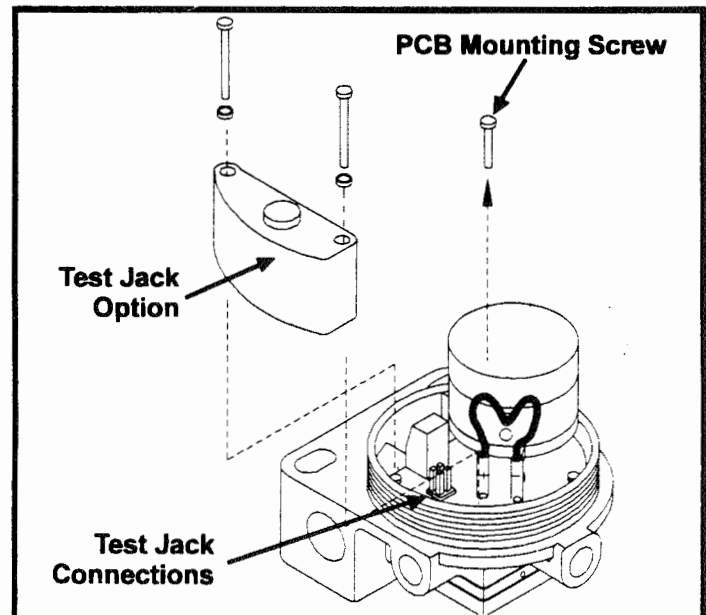

Figure 5 - Test Jack Installation
2. Locate and remove the TEST JACK Connection Jumpers. See Figure 4 and Figure 5
3. Locate and remove the PCB Mounting screw in the lower left hand corner of the PCB. See Figure 5.
4. Connect the TEST JACK to the PCB at the Test Jack Connections as shown in Figure 5.